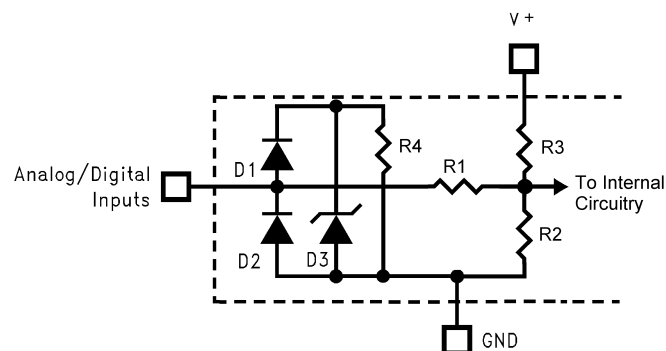

Figure 2. ESD Protection Input Structure
- (1) Parasitics and or ESD protection circuitry are shown in Figure 2 for the LM87's pins. The nominal breakdown voltage of the zener D3 is 6.5 V. Care should be taken not to forward bias the parasitic diode, D1, present on pins: A0/NTEST_OUT, A1 and DACOut/NTEST_IN. Doing so by more than 50 mV may corrupt a temperature or voltage measurement.
- (2) Typicals are at $T_J = T_A = 25\ ^\circ\text{C}$ and represent most likely parametric norm.
- (3) Limits are guaranteed to TI's AOQL (Average Outgoing Quality Level).
- (4) The Temperature Error specification does not include an additional error of $\pm 1\ ^\circ\text{C}$, caused by the quantization error.
- (5) The Temperature Error will vary less than $\pm 1\ ^\circ\text{C}$ over the operating V_{CC} range of 2.8V to 3.8V.
- (6) TUE (Total Unadjusted Error) includes Offset, Gain and Linearity errors of the ADC.
- (7) Total Monitoring Cycle Time includes all diode checks, temperature conversions and analog input voltage conversions. Fan tachometer readings are determined separately and do not affect the completion of the monitoring cycle.
- (8) This is the lowest DAC code guaranteed to give a non-zero DAC output.